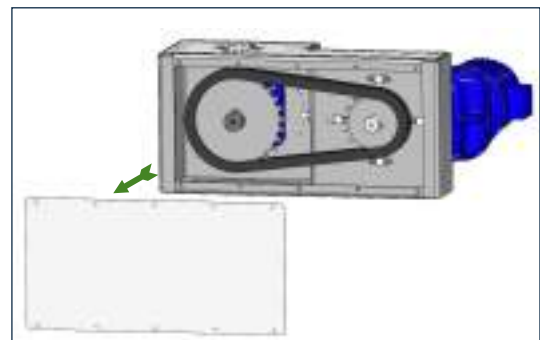

Fig. 1
- take off the carter (fig.1);